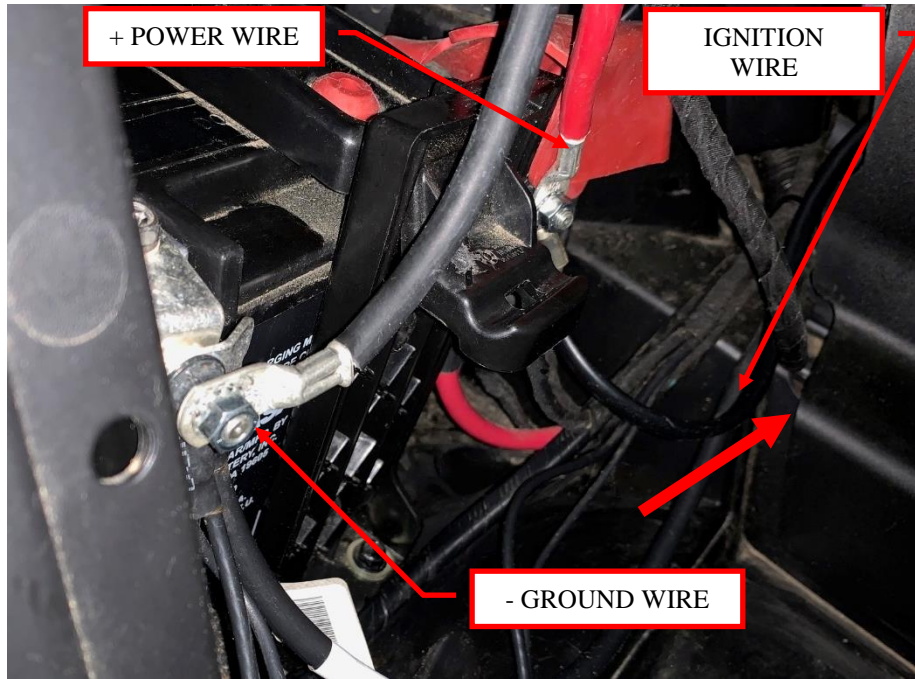
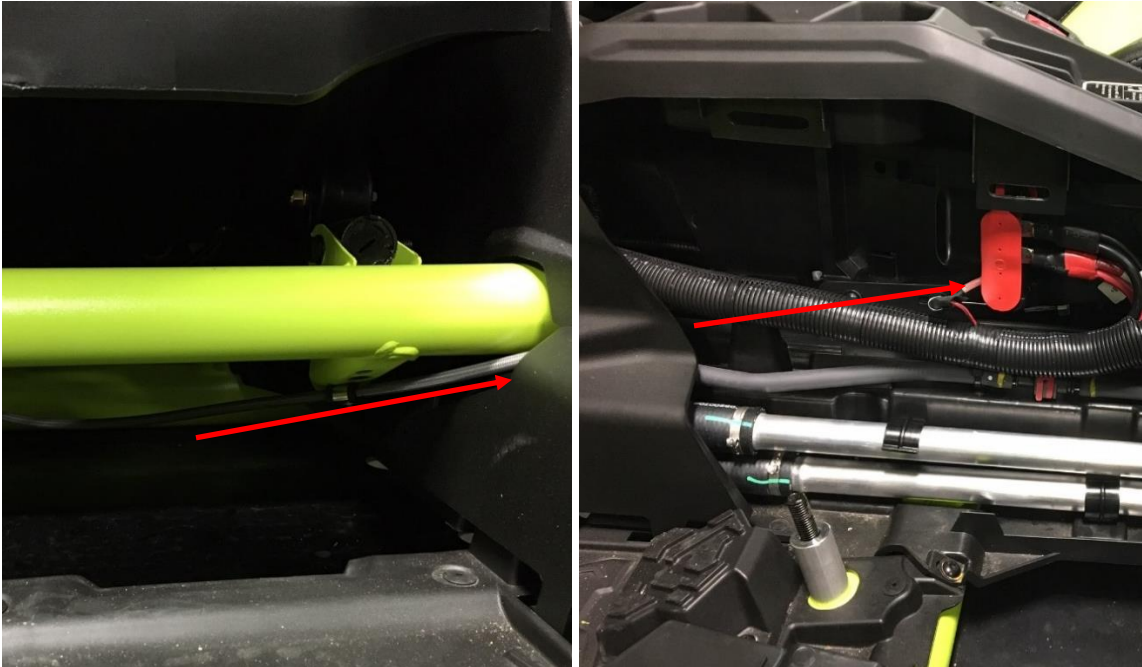

Figure 9: Attach the power wires.
Figure 11: Ignition wire routing path.
8. Connect the red power wire to the positive terminal of the battery. Connect the black ground wire to the negative terminal of the battery. Use the supplied ¼" washers and M6 x 1.0 nuts to clamp the cables on top of the existing battery cables. See Figure 9.
10. Route the ignition wire from behind the rear passenger seat (near the area where you made the battery connections in Figure 9), into the opening by the rear passenger seat floor, and into the front center console. See Figure 11.